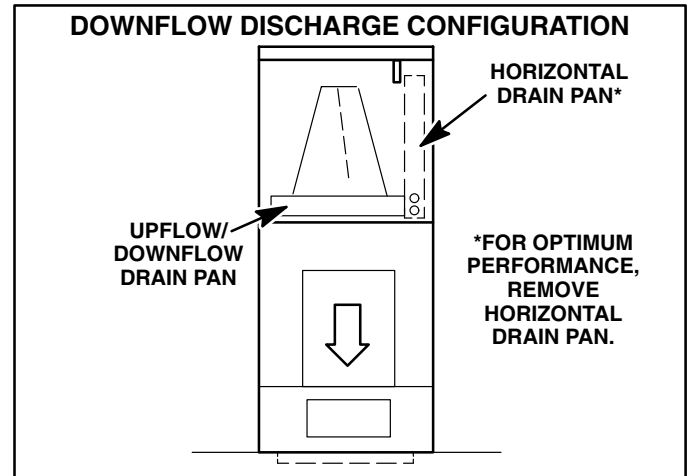

FIGURE 13
- 3- Remove horizontal drain pan. See figure 13.
- 6- Replace coil assembly and blower if removed. Replace coil access panel. If horizontal drain pan is not removed, depress tab in cabinet support rail to hold horizontal drain pan in place. See figure 13.